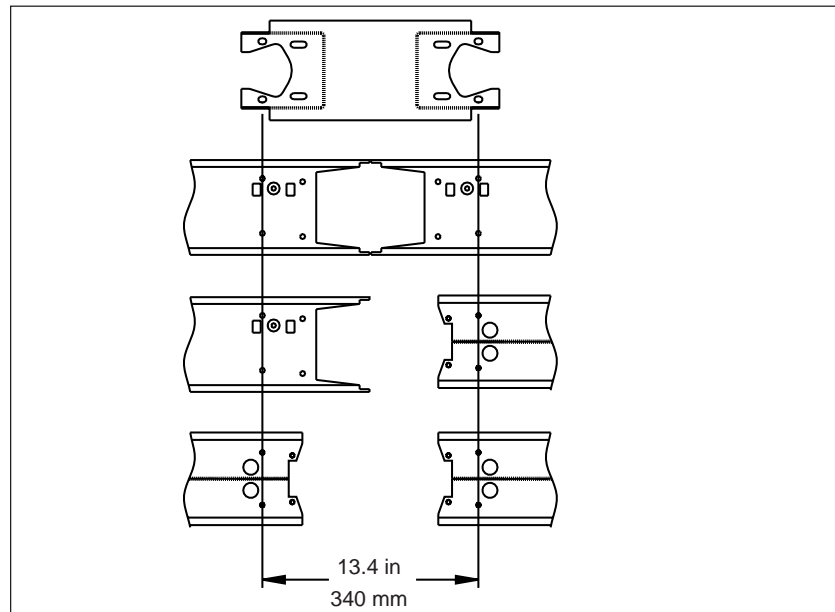

Figure 2: Spacing for various joint end configurations
4. Be sure the busways are aligned properly before attempting to join them. With the rod engaged in the surge clamp, pull to slide the busways together until the busway is spaced as shown in figure 2.